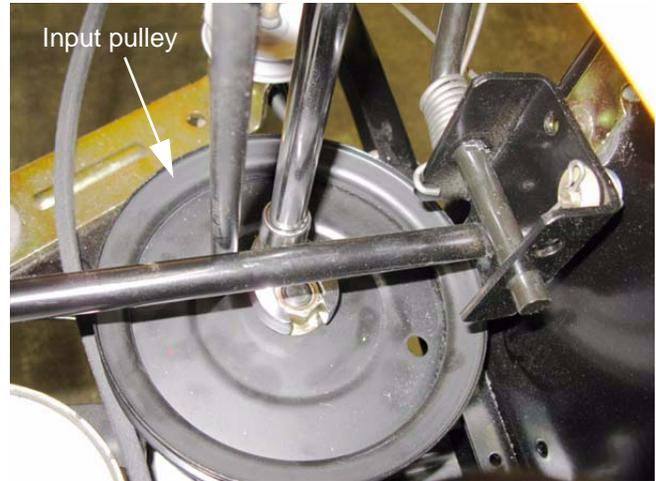

Figure 6.74
2. Remove the input pulley and input pulley adaptor from the transaxle using a 7/8" wrench. See Figure 6.74.